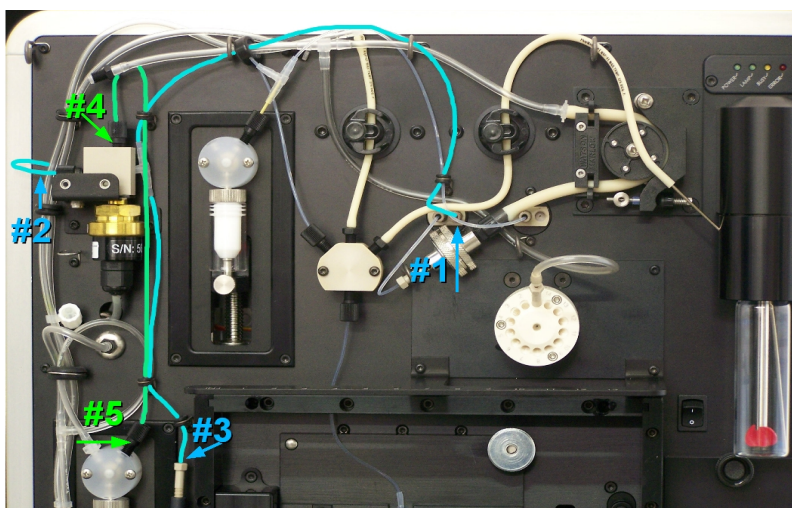
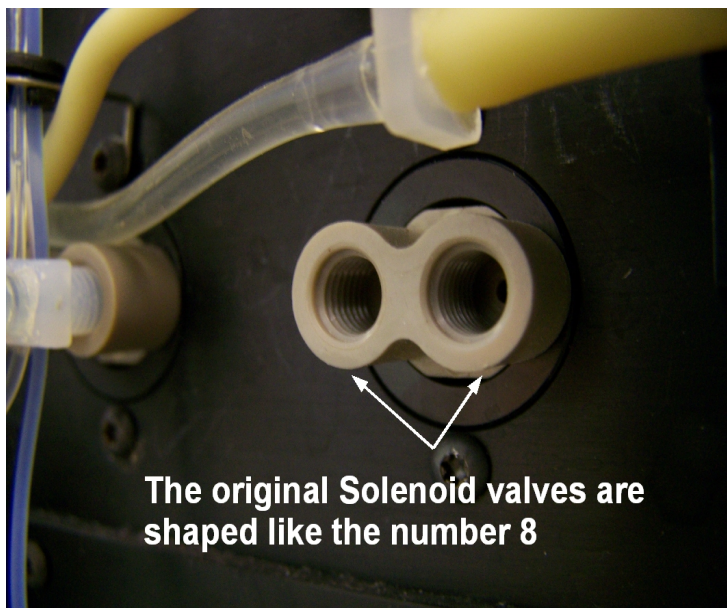
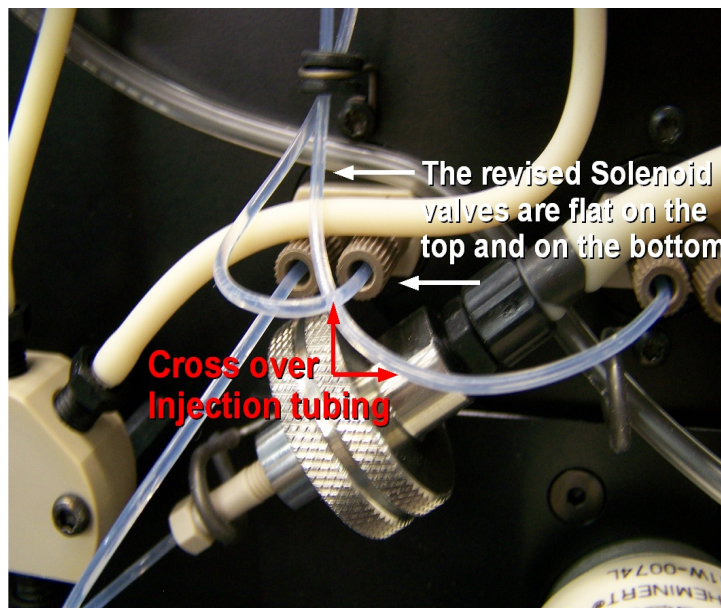

Figure 1: Aspiration Connection routing diagram.
Figure 2: Close up of original Solenoid Valve.
Figure 3: Close up of revised Solenoid Valve.
- Run the longer line (from the arm of the *T Hose Barb*) up through the small grommet next to the *Injection Pump*. Continue to route the tubing through the closest *Tubing Support*, into the *Injection T Coil*, through the next *Tubing Support*, and down to the grommet above the left *Solenoid Valve*. Cross over the *Injection T Line* before attaching to the **right** side of the left *Solenoid Valve* using a 1/16" *White Ferrule* (347016) with a 1/4"-28 *Black Nut* (346001) **OR** a 1/4"-28 *Headless Brown Nut* (346011) (Figure 1, #1). Refer to Figures 2 and 3 to see a close up of this connection and to determine the appropriate nut for your *Solenoid Valve*.
- Orient the *T Hose Barb* so that it is sitting flush with the front panel and the base is pointing toward the *Pressure Transducer*. Run the tubing from the **base** of the *T Hose Barb* behind the *Pressure Transducer* and the *Buffer/Waste Lines* then loop the tubing back around and into the side of the *Pressure Transducer* using an *M6 Black Nut* (346101) and a 1/16" *White Ferrule* (347016) (Figure 1, #2).
- Route the shorter tubing down through the [2] grommets next to the *Aspiration Pump* and into the top of the *Union* using a 1/16" *Tan Ferrule* (347116) and a 10-32 *Tan Nut* (346201) (Figure 1, #3). Torque the 10-32 *Nut* to 15 in-oz using the 1/4" *Deep Socket* (015902) and the 15 in-oz *Torque Wrench* (024140).
- Insert the separate line (represented in green) into the top of the *Pressure Transducer* using an *M6 Black Nut* (346101) and a 1/16" *White Ferrule* (347016). Loop the tubing above and then down through the grommet next to the *Injection Pump*, down through the grommet above the *Aspiration Pump*, and into the **right** side of the *Aspiration Pump Valve* using an *M6 Black Nut* (346101) and a 1/16" *White Ferrule* (347016) (Figure 1, #4 and #5).
Important: Use the *1/4"-28 Black Nut (346001)* for any Instruments that have the **original Solenoid Valves** installed on them (Figure 2). **Note:** Make sure the tubing is flush with the nut so it does not clog the valve. Use the *1/4"-28 Headless Brown Nut (346011)* for the **revised Solenoid Valves** (Figure 3).